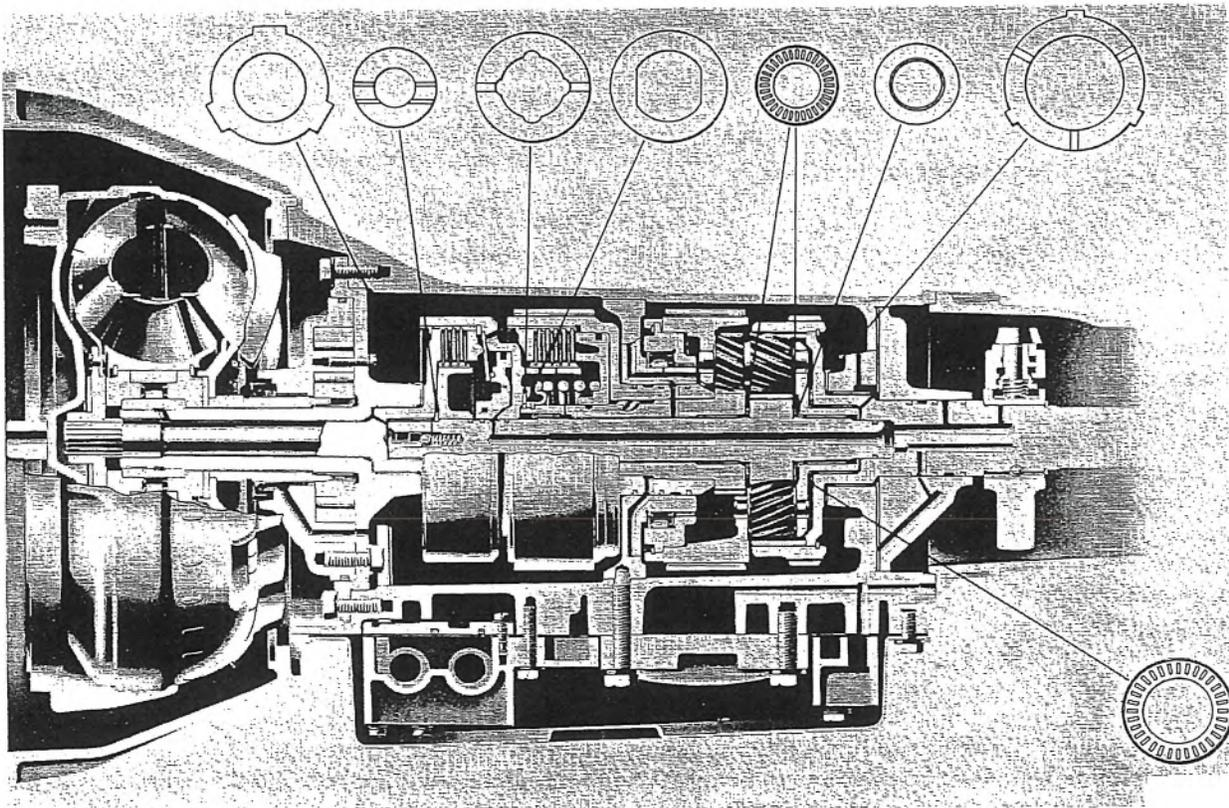
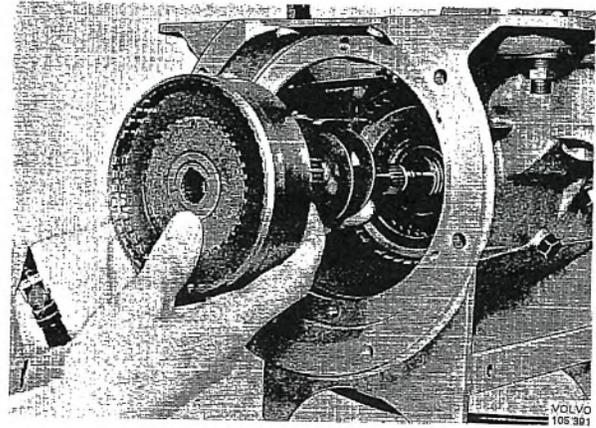

Fig. 4-91. Location of thrust washers
Fig. 4-105. Installation sequence, front clutch cylinder thrust and backing washers
3. The thrust washer for the driven shaft, see Fig. 4-91, is stuck onto the transmission case with vaseline. The driven shaft complete with ring gear is then installed into the transmission case.
17. Install the clutch assembly with its two different thrust washers in the transmission, see Fig. 4-105. Be careful not to damage the oil sealing rings. For identification of the thrust washers, see Fig. 4-91.